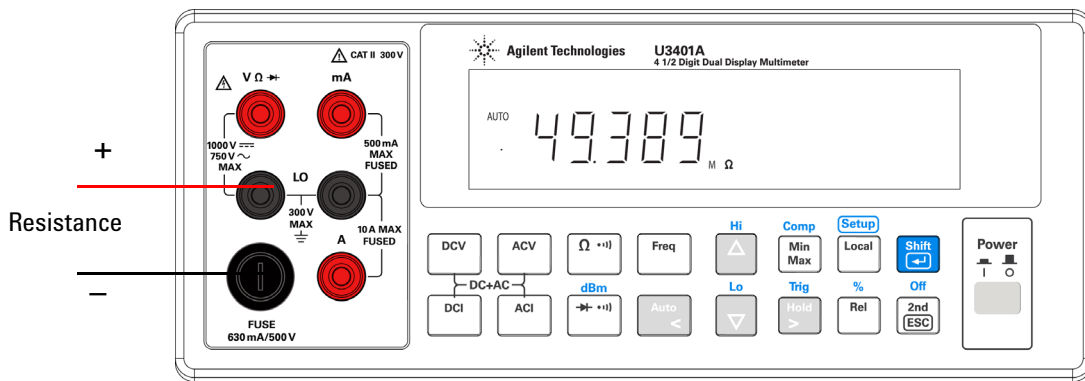

Figure 3-4 Connection terminal when measuring Resistance
- 1 Connect a resistor under test to **V Ω** and **LO** input terminals as shown in Figure 3-4.